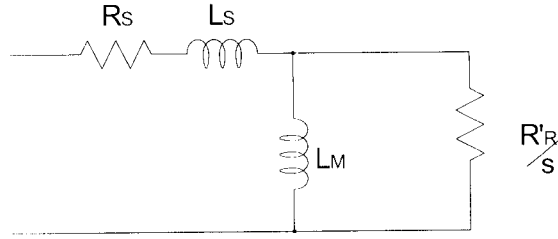

Figure 5
- (b) Figure 5 shows an approximate equivalent circuit of an induction machine. The machine has the following properties: